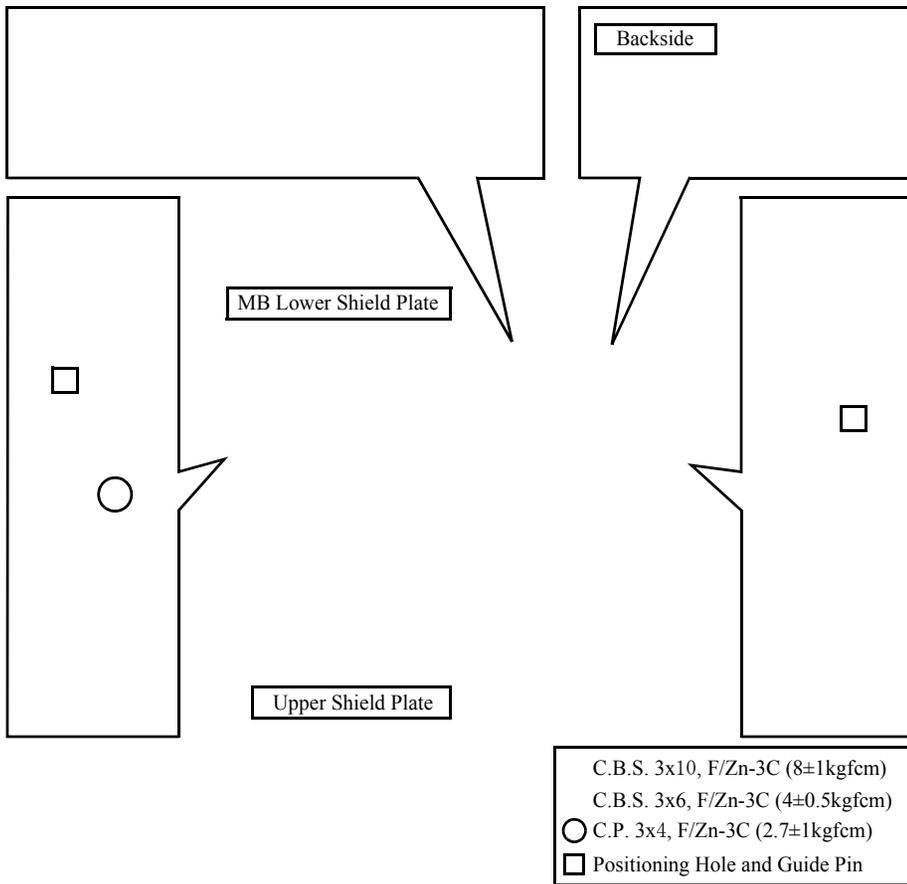

Figure 4-22. Removing the Main Board (1)
- **Align the positioning holes (x2) of the Upper Shield Plate and the guide pins (x2) of the MB Lower Shield Plate as shown in Figure 4-22.**
- **Install the Main Board with the Upper Shield Plate over the MB Lower Shield Plate as shown in Figure 4-22.**